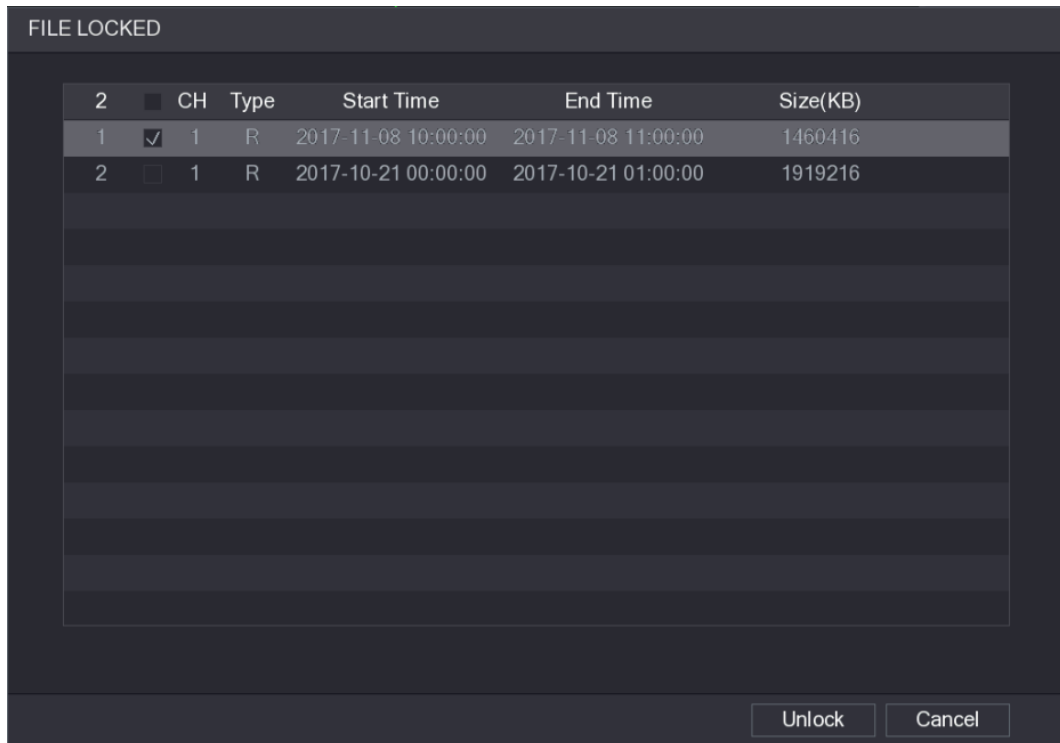

Figure 5-106
- To unlock the recorded video, in the **FILE LOCKED** interface, select the video, and then click Unlock. See Figure 5-106.